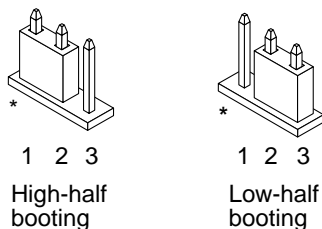
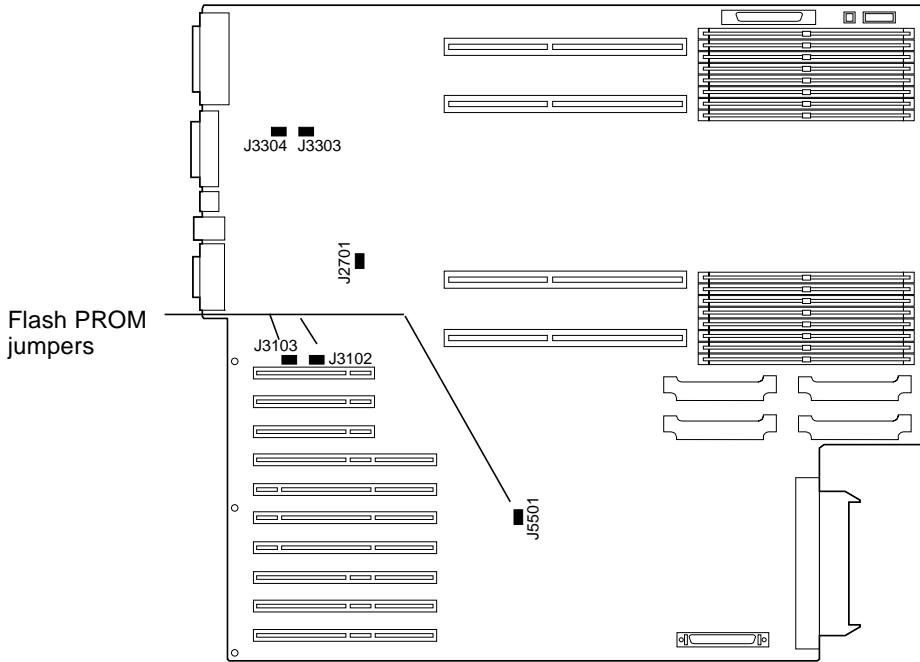

FIGURE 4-7 Setting the Boot Control Jumper to Low-Half Booting or High-Half Booting
FIGURE 4-8 Flash PROM Jumpers on the Sun Enterprise 450 System and the Sun Ultra 450 Workstation
- 2. If output cannot be found on any of the installed frame buffers or serial port A, set the boot control jumper to boot from the half of the PROM that is not currently selected. See FIGURE 4-1, FIGURE 4-2, FIGURE 4-3, FIGURE 4-7, and FIGURE 4-8. An asterisk (*) on the main logic board notes the location of pin 1.**
- If the jumper is set for high-half booting, move it to low-half booting (pins 2 and 3 jumpered). See FIGURE 4-7.
- If the jumper is set for low-half booting, move it to high-half booting (pins 1 and 2 jumpered). See FIGURE 4-7.
Three jumpers on the main logic board affect flash PROM operation. FIGURE 4-8 shows the jumper locations, and TABLE 4-6 describes their functions.